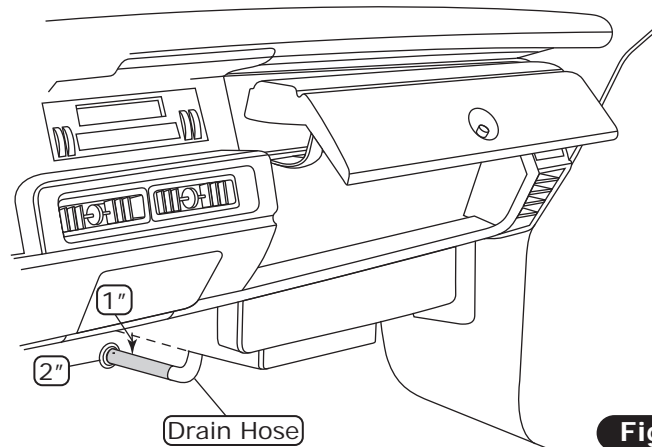

Figure 1
1. Locate the #8 compressor A/C hose. Lubricate (2) #8 O-rings (See Lubricating O-rings, Page 11), and connect the 90° female fitting to the #8 discharge port on the compressor. Then route the straight female fitting with R134a service port to the #8 condenser hardline coming over the core support. Tighten each fitting connection.
2. Locate the #10 compressor A/C hose. Lubricate (2) #10 O-rings (See Lubricating O-rings, Page 11), and connect the 45° fitting to the #10 suction port on the compressor. Then route the 45° female fitting with R134a service port to the #10 hardline on the inner fender cap. Lubricate (2) #10 O-rings (See Lubricating O-rings, Page 11), and connect the 90° female fitting in the wheel well to the #10 hardline on the inner fender cap. Then route the straight female fitting from the inner fender cap to the #10 fitting on the evaporator (See Figure 1a, Page 13 and Figure 1, Page 16). Tighten each fitting connection.
3. Locate the #6 evaporator A/C hose. Lubricate (2) #6 O-rings (See Lubricating O-rings, Page 11), and connect the straight female fitting to the #6 hardline coming over the core support from the drier. Then route the straight female fitting to the #6 hardline on the inner fender cap. Lubricate (2) #6 O-rings (See Lubricating O-rings, Page 11), and connect the 90° female fitting in the wheel well to the #6 hardline on the inner fender cap. Then route the 90° female fitting from the inner fender cap to the #6 fitting on the evaporator (See Figure 1a, Page 13 and Figure 1, Page 16). Tighten each fitting connection.